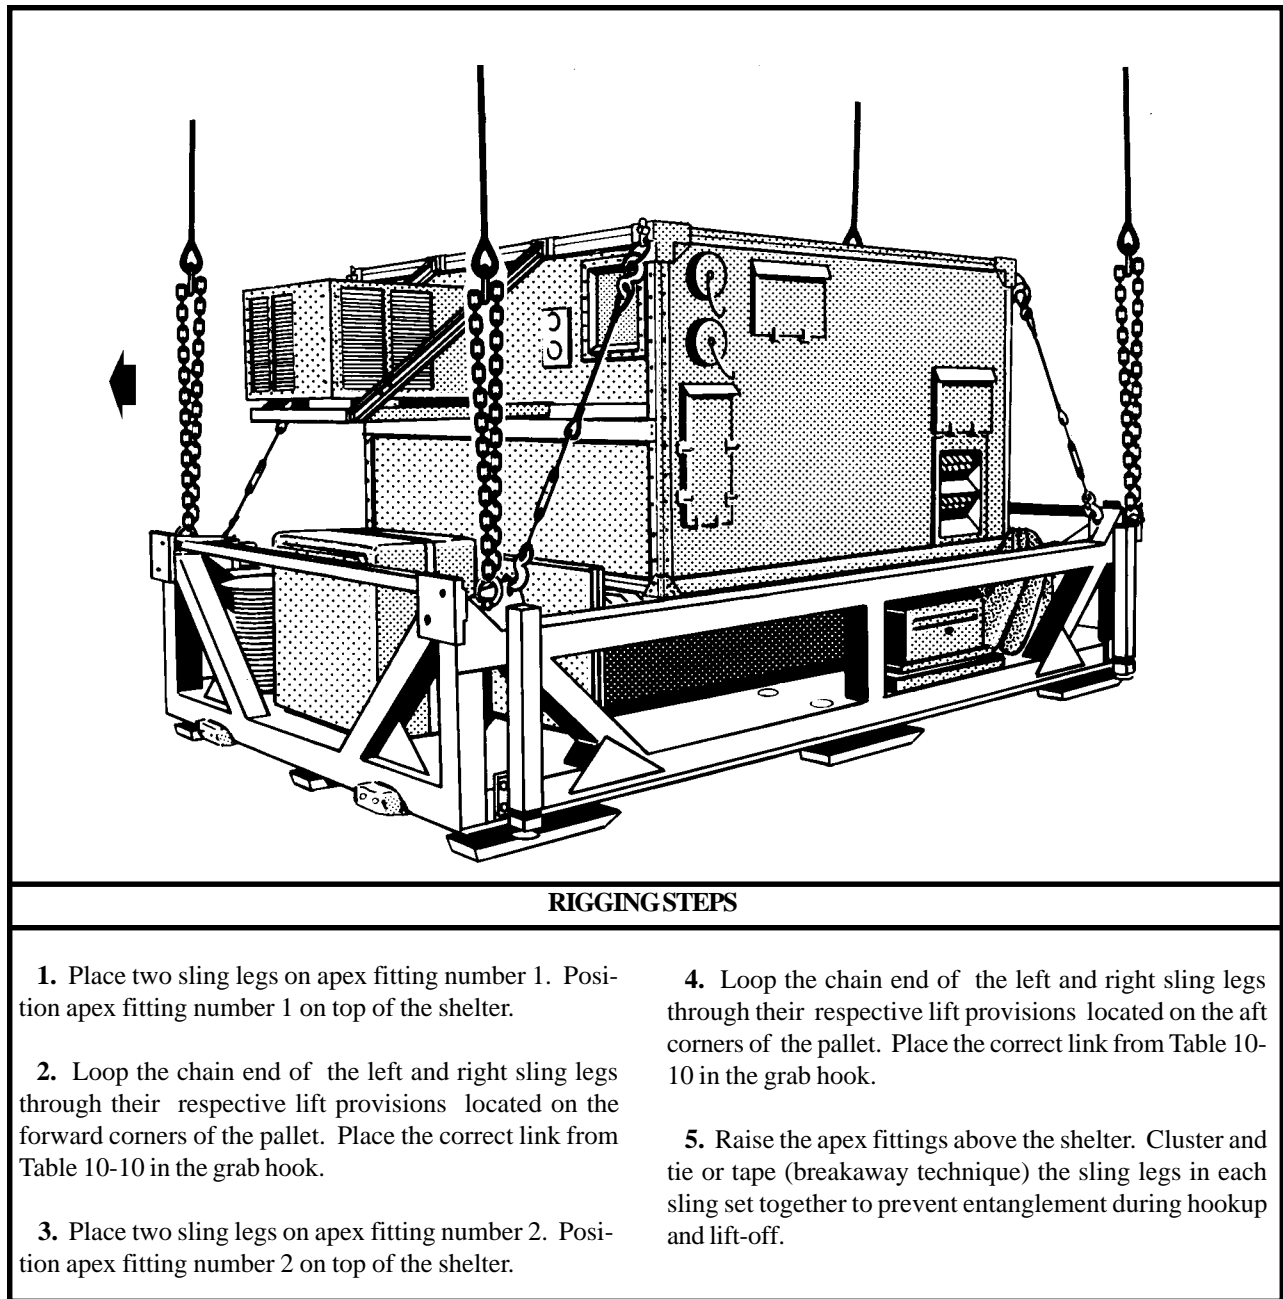

Figure 10-10. NATO Airbase Satcom (NABS) Shelter Pallet, AN/TSC-93B(V)2
(2) **Rigging.** Rig the load according to the steps in Figure 10-10.